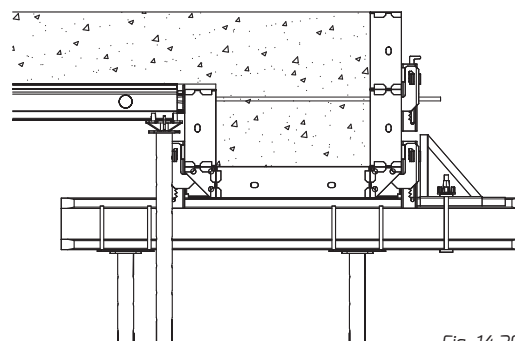

Fig. 14.29
11. When the binder has to be made you can use the wall shuttering boards and the connecting elements. The boards can be propped with the conventional wooden girders and construction props. When the beam clamps are used the shuttering boards will be positioned vertically (fig. 14.29).